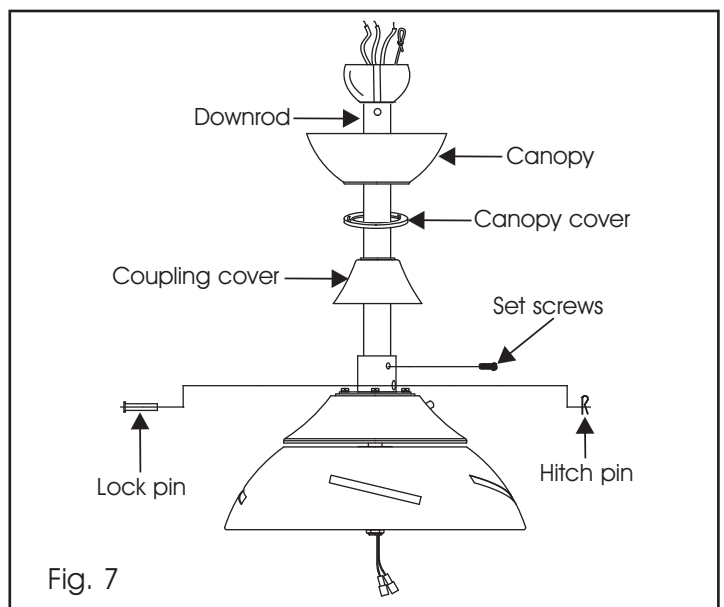

Fig. 7
**Step 6.** Route wires and safety cable exiting from the top of the fan motor through the collar cover, canopy cover, canopy and then through the ball / downrod. (Fig. 7)
**Step 7.** Align the holes at the bottom of the downrod with the holes in the collar on top of the motor housing. (Fig.7) Carefully insert the hanger pin through the holes in the collar and downrod. Be careful not to jam the pin against the wiring inside the downrod. Insert the locking pin through the hole near the end of the hanger pin until it snaps into its locked position. (Fig. 7)
**Step 8.** Tighten two set screws on top of the fan motor firmly. (Fig. 7)